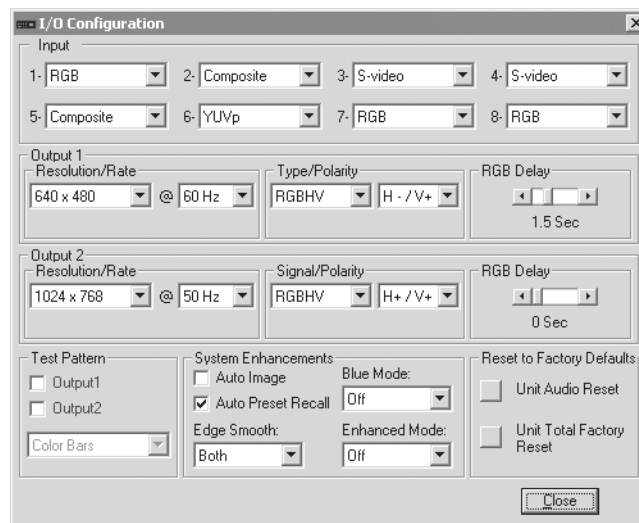

Figure 5-4 — Control program I/O Configuration window
6. If desired, on the task bar click *Tools > I/O Configuration* to configure the video inputs and outputs in the I/O configuration window (figure 5-4).